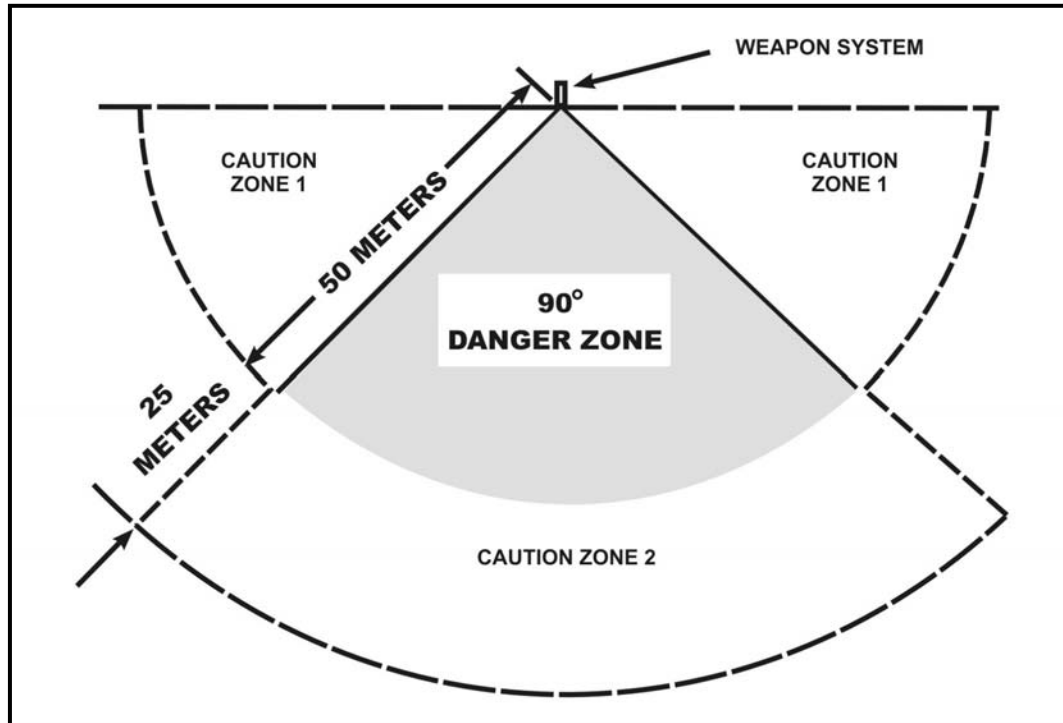

Figure F-1. MILES TOW backblast area.
b. Before pulling the PULL-TO-ARM switch, always check to ensure no personnel or equipment (antennas) are in the ATWESS danger zone. This zone extends for 75 meters behind the ATWESS firing chamber and covers an arc 90 degrees wide (Figure F-1).